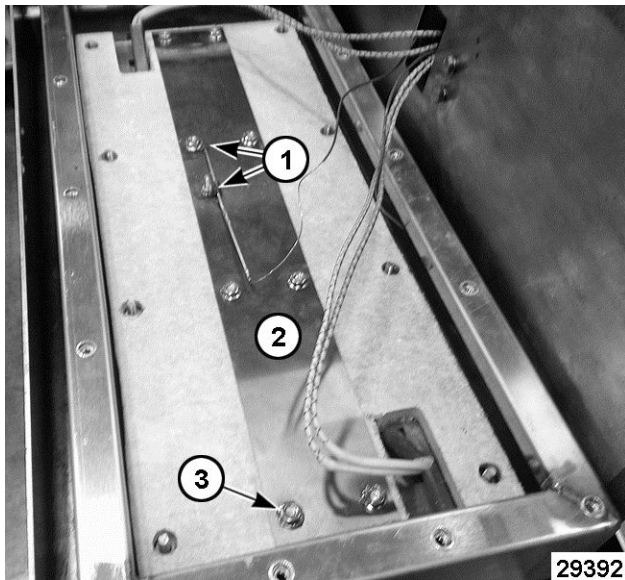

Fig. 46
5. Remove mounting clips (1, Fig. 46) securing high limit capillary bulb to platen insulation retainer (2, Fig. 46).
6. Remove the remaining 7 mounting nuts (3, Fig. 46) from platen insulation retainer.